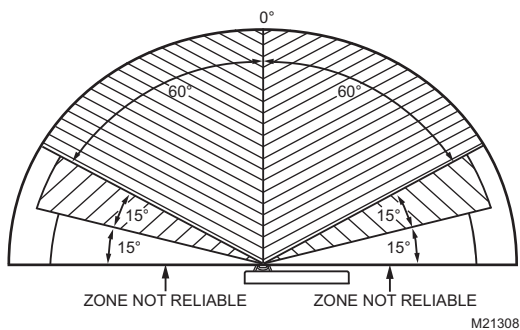

Fig. 3. Typical Horizontal Angle
2. Open up by pulling on the bottom side of thermostat. (Fig. 3)